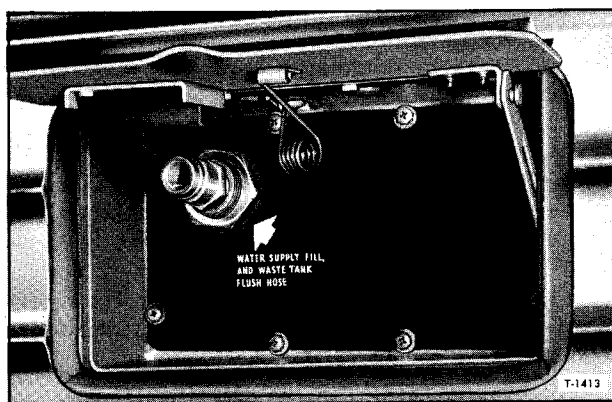

Figure 4—Lavatory Water Service Fitting
right rear side of coach (fig. 4). End of line is equipped with a quick release coupling fitting to which a flexible service hose with a mating coupling can be attached for servicing tanks.
1. Lift access door over service line fitting at right rear of coach (fig. 4), then connect water
1. Lift access door over service line fitting at right rear of coach (fig. 4), then connect water supply service hose to fitting.